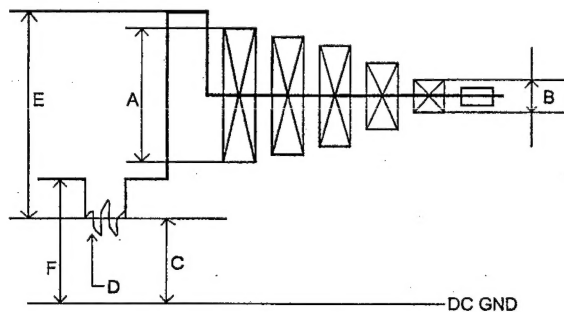

Fig.2
2. With the multi-burst signal, measure the waveform of TP502 by oscilloscope. (Fig.2)